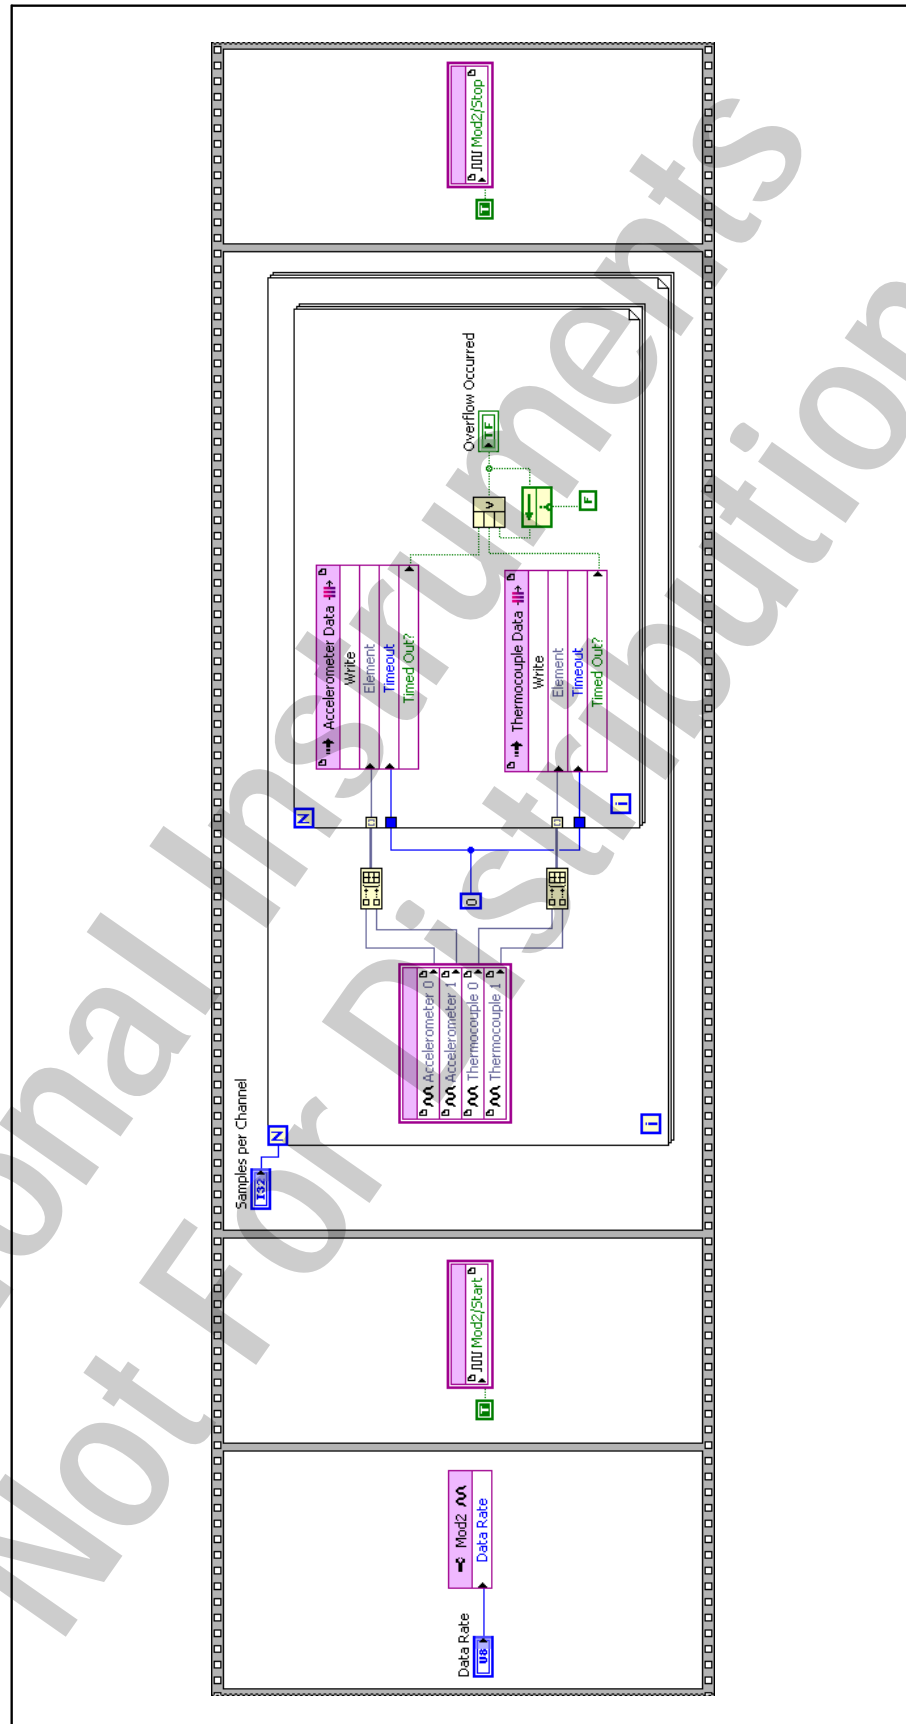

Figure 9-14. FPGA Interleaving Block Diagram
8. Using the following items, build the block diagram of the FPGA Interleaving VI to match Figure 9-14: